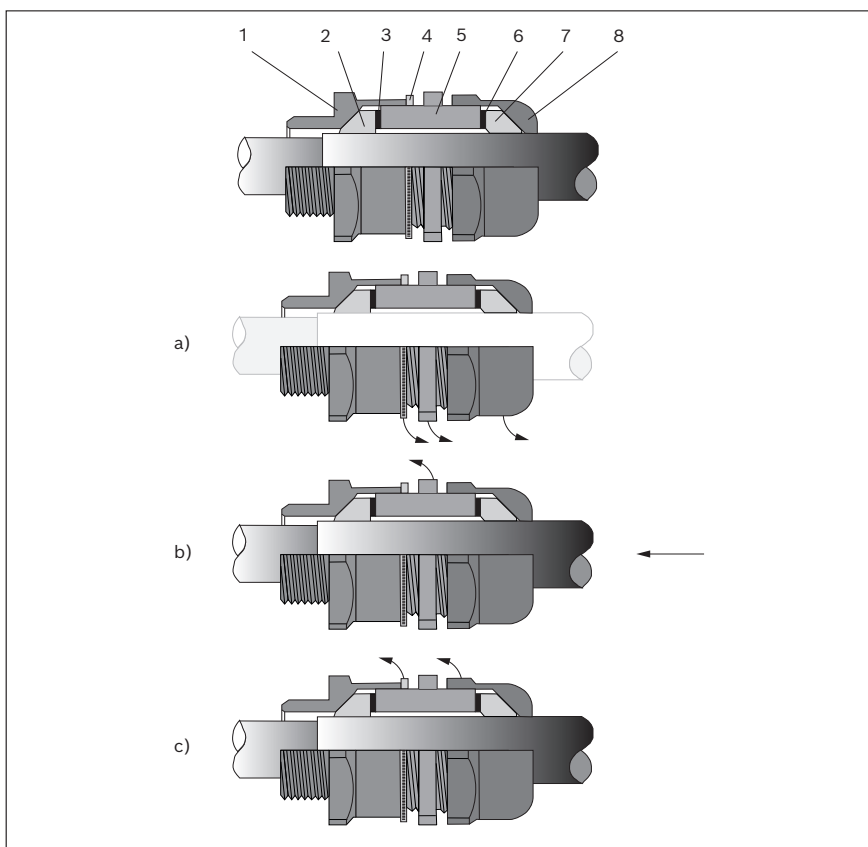

Fig. 4: Cable and line entry
- ▶ The wires of the connection line are connected to the 2 pin operating voltage connection and the protective grounding conductor. The separate equipotential bonding conductor must be connected to the connection for potential equalization conductor. For the position of the connection, see fig. 4.
The terminal box with its cover in the marked **area A** and the cable and line entry in the **area B** (fig. 4) will create a pressure-resistant gap. To ensure explosion protection, these gaps may not be modified.